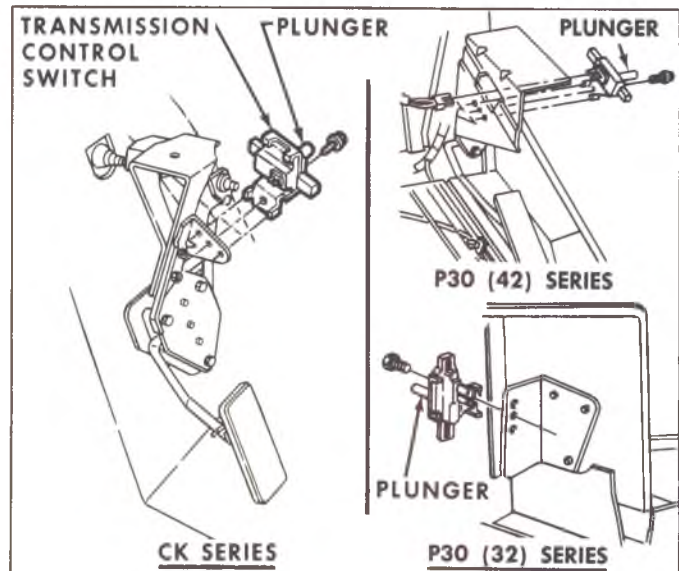

Fig. 28T—Detent Downshift Switch
1. Install switch as shown in Figure 28T.